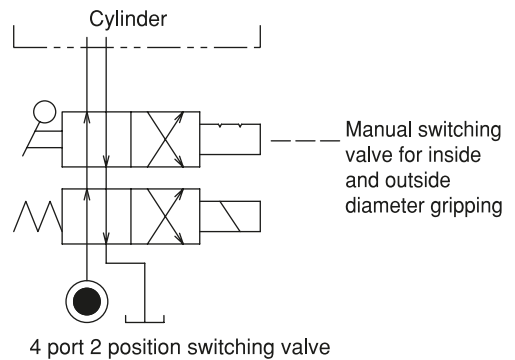

Fig. 16
- Consider the hydraulic circuit design so that the operation is easy and no mistakes in operation occur. Attempt failsafe for the circuit so as not to cause any accidents even in the case of blackout. (Fig. 16)